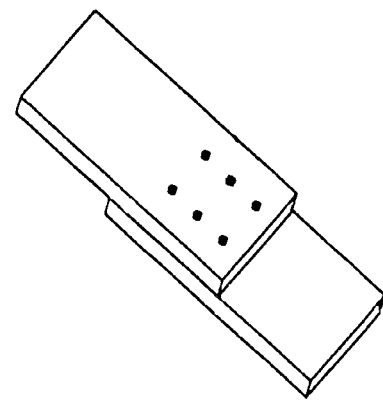

Figure 4. Fastener 3: the bolts are spaced evenly.
4. **Fastener 3\* - Bolts:** Bolt together the next two boards. First, measure and evenly space six holes for the bolts. Drill 1/4-inch diameter holes through the boards. Position the bolts and tighten the nuts (see Figure 4). These boards can also be fastened at right angles.